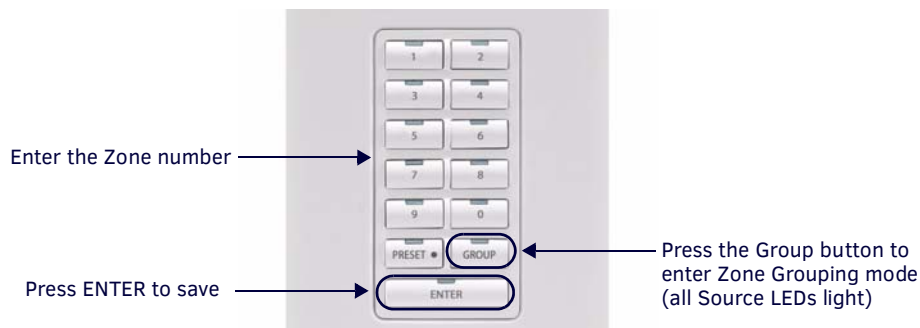

FIG. 72 Adding a Zone to a Group
- To enter Group Mode, press the **Group** button (see FIG. 72).